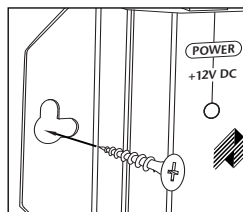

Figure 3: Wall-mount placement
2. Wall-mount (affixed to the back of the equipment cabinet or a nearby wall) (Figure 3).